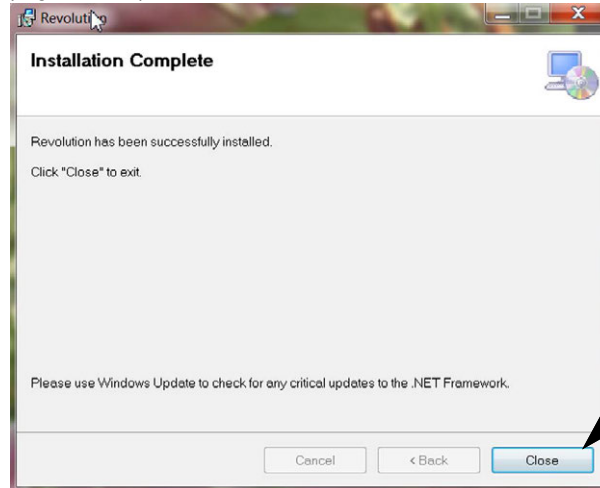

Figure 4-40. Installation Complete Screen
8. When *Installation Complete* (Figure 4-40) screen pops up, click **Close**.